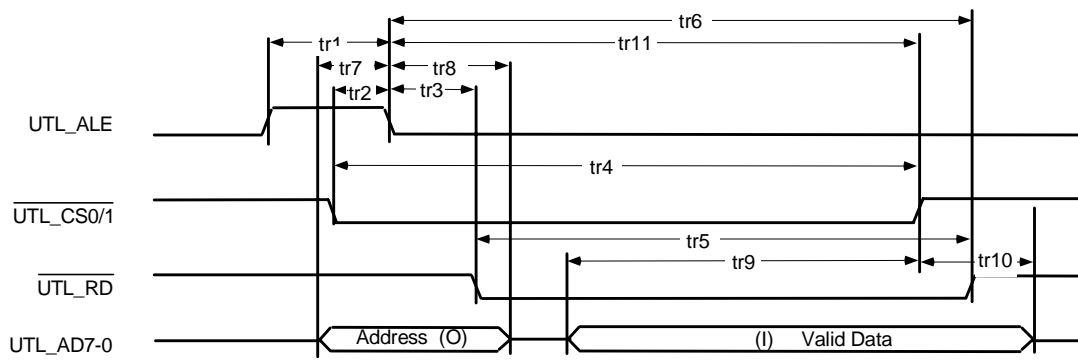

Figure 5 Utility Bus Read Cycle
**Utility Bus Read Cycle (See Figure 5)**